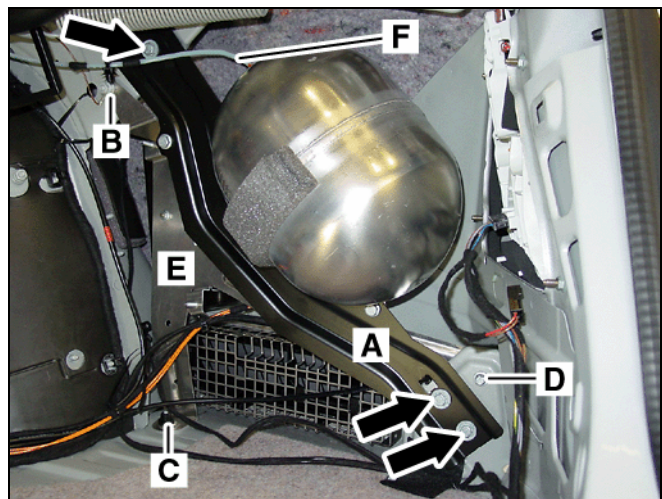

Figure 8
3. Remove 4 bolts (arrows, Figure 8 [top bolt not shown]) securing air reservoir bracket assembly (A) to vehicle, then reposition air reservoir tank to allow access to right rear side of trunk.
5. Secure satellite control module bracket (E, Figure 8) assembly to vehicle:
- Reuse (previously removed) nut (B, Figure 8) to secure bracket to upper stud.
- Use plastic nut (C, Figure 8) provided in installation kit to secure bracket to lower mounting stud.
- Use torx bolt (D, Figure 8) provided in installation kit to secure center bracket support arm to vehicle body.